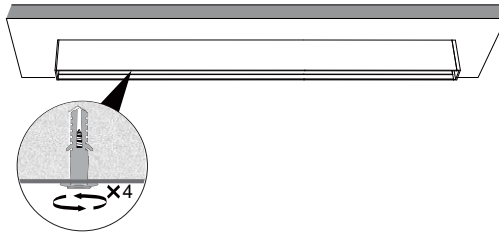

Figure 9
4. Fix the track rail on the ceiling with anchors and screws (Figure 9).